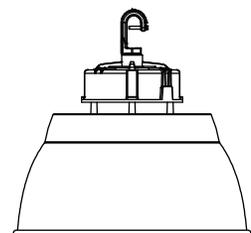

Figure 4
- Finished result as shown in (Figure 4).
- Tighten hook's screw to secure the installation (Figure 4).